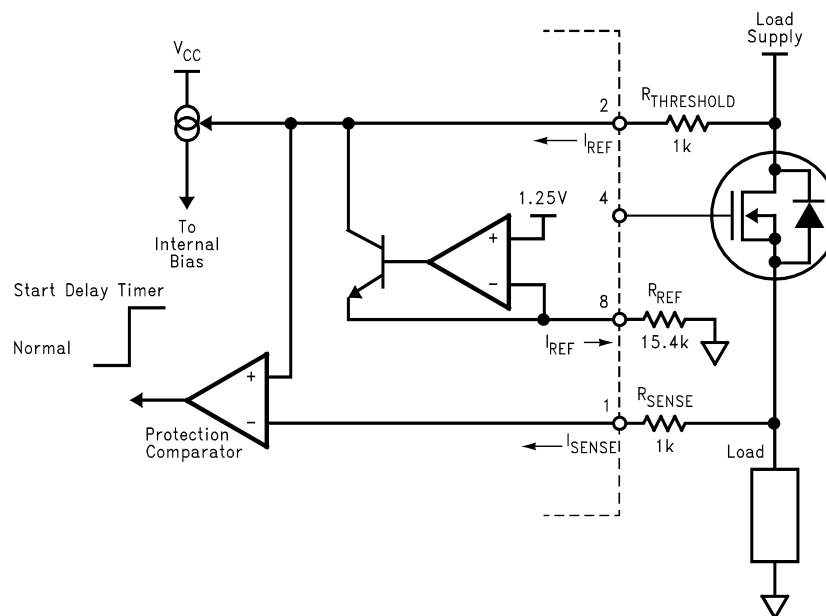

Figure 14. Protection Comparator Biasing
**Figure 14** illustrates how the threshold voltage for the internal protection comparator is established.